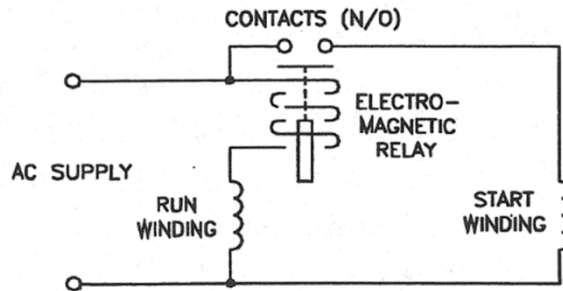

Figure 11. - Electromagnetic starting switch principle.
- a. **An electromagnetic** mechanism that opens the start winding circuit when line current falls to a specified value during starting. On starting, heavy current flows in the run winding, pulling a plunger up to connect the start winding. As the motor speeds up the current fall to about 70% of full speed, the plunger is released and the contacts open, disconnecting the start winding. A circuit showing the principle is shown in Figure 11.